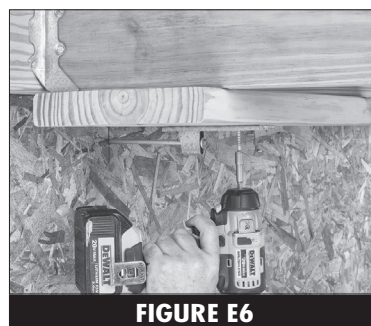

FIGURE E6
8. Install the (8) small screws into each of the holes on the bracket. **(Figure E6)** Do not overdrive.
9. Repeat this same procedure for the last (3) brackets.